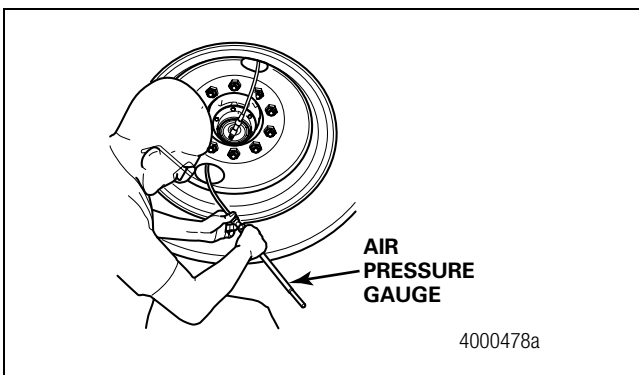

Figure 6.2
2. Press the tire pressure gauge to the hose and read the pressure. The end of the tire inflation system hose incorporates a standard tire valve fitting. Figure 6.2.